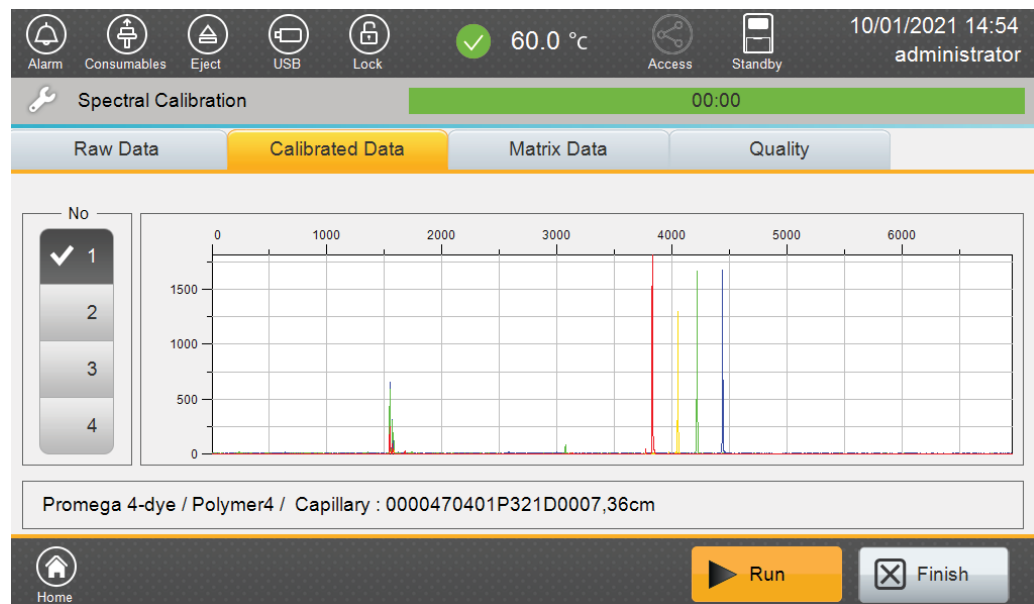

Figure 25. Spectral Calibration 'Calibrated Data' tab screen.
- The 'Calibrated Data' tab can be used to view the matrix peaks with both baseline and spectral applied for each capillary (Figure 25).